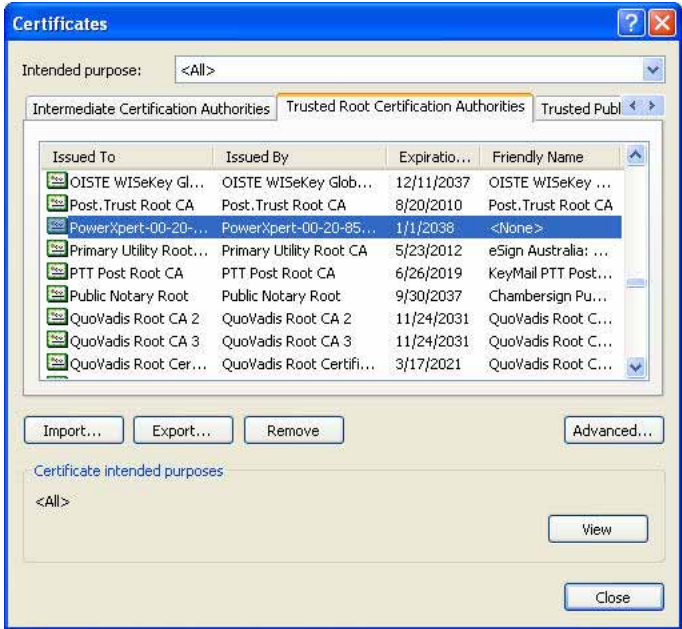

Figure 28. Trusted Root Certification Authorities Tab
- d. Click the **Trusted Root Certification Authorities** tab, and then locate and select the certificate name on the list (see Figure 28).